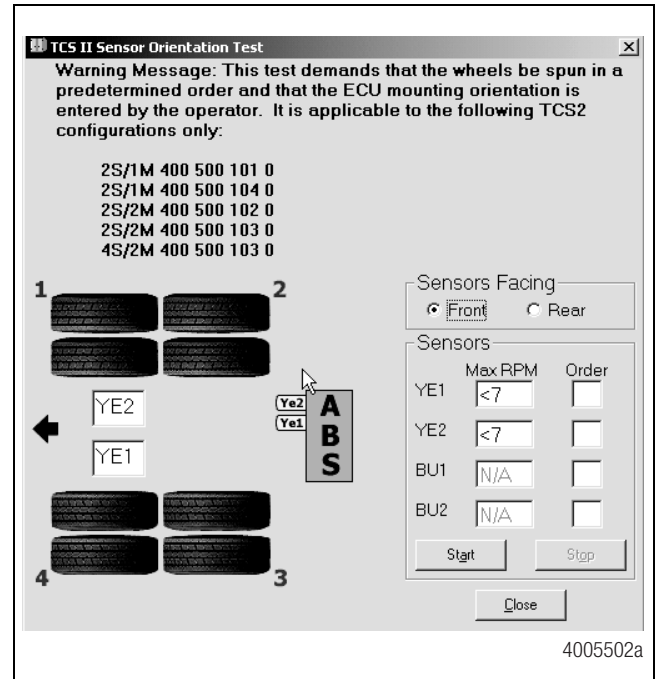
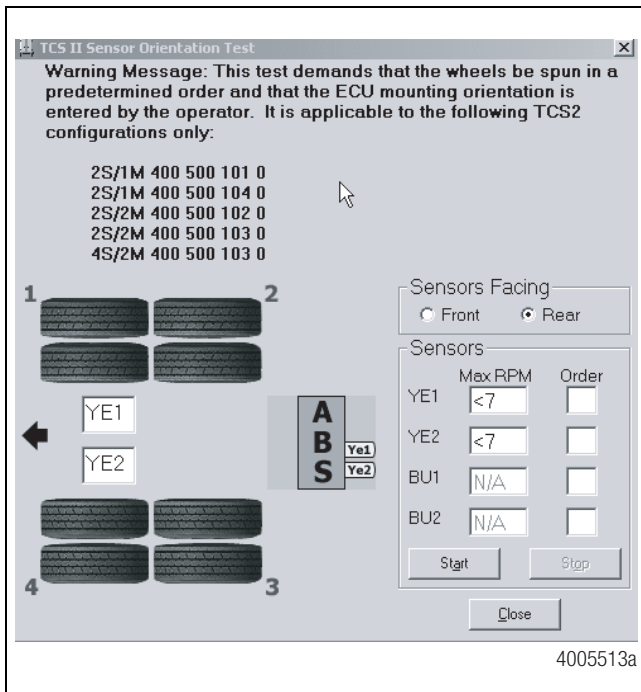

Figure 29
Figure 30
4. At the **Trailer Main Menu**, click on **Component Test**, then select **Sensor Orientation Test** to display the **Sensor Orientation Test** screen. Figure 29.
Refer to Figure 29 and Figure 30 for illustrations of the ECU mounted with sensors facing forward and rear. The correct mounting orientation must be selected prior to starting the test.
7. Follow the screen prompts, starting with 1, to rotate each sensed wheel end at a rate of 1/2 revolution per second. This rate equals a wheel speed of approximately 4 mph (7 kph). As each sensed wheel is rotated, check the color of the sensor identification block on the screen for results. Sensor identification is indicated in the boxes located in the bottom left portion of the **Sensor Orientation Test** screen. Figure 30.
9. Verify there is sensor output. If there is no sensor output, verify that a tone ring has been installed and that the sensor is pushed all the way in against the tone ring. Repeat the test. If the problem persists, contact Meritor WABCO (800-535-5560). Sensor output appears in the Sensors field located in the bottom right portion of the **Sensor Orientation Test** screen. Figure 30.